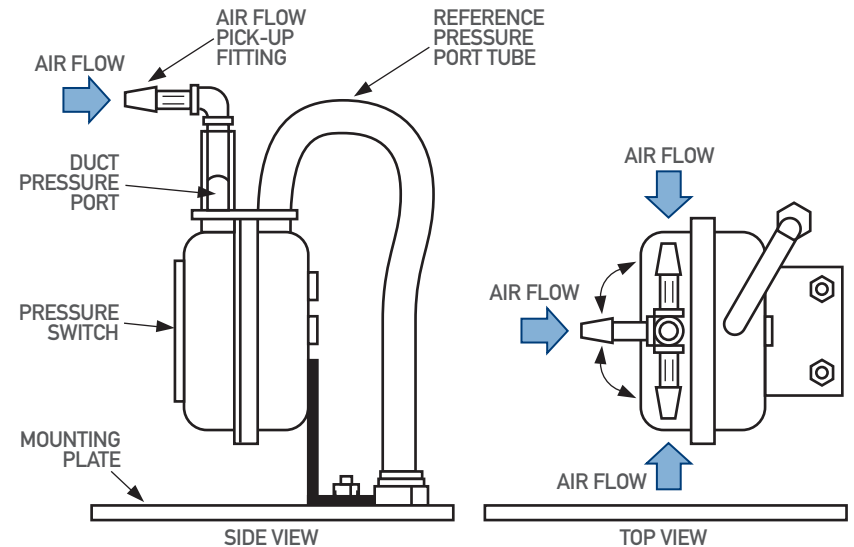

FIGURE 3
- b. mount the supplied AIRFLOW PICK-UP FITTING on to the Duct Pressure Port on the pressure switch located on the back of the plate. Ensure that the airflow pick-up fitting is installed so that the air flows into the fitting opening. See figure 3 below.